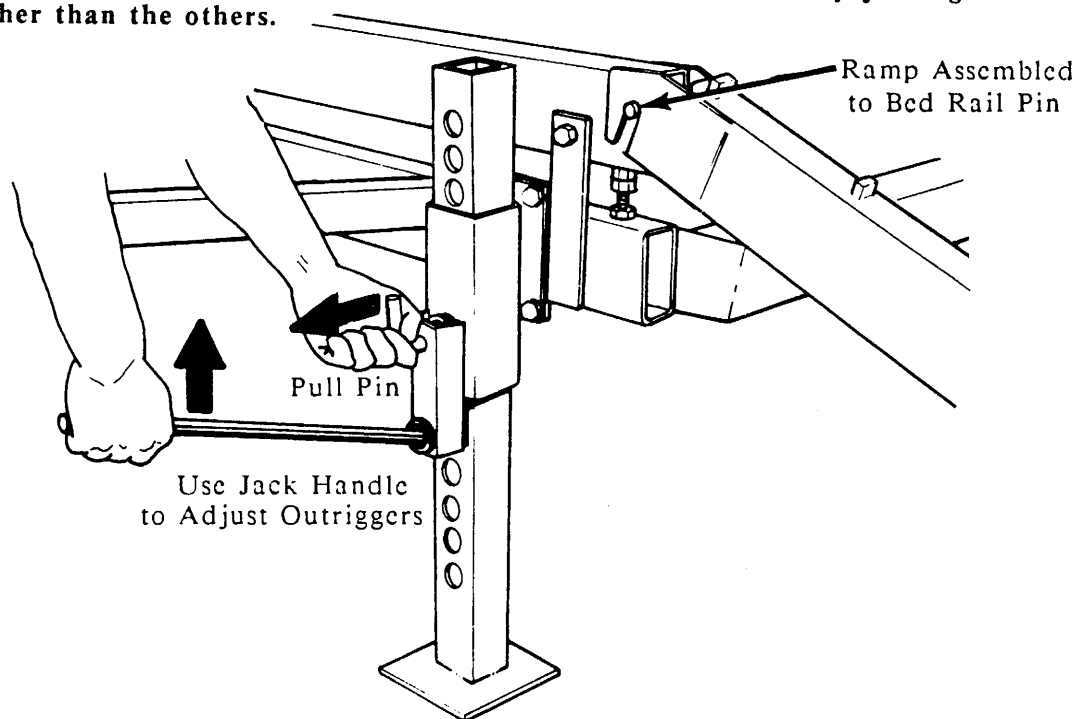

FIGURE 2
1. Always unhitch mill from vehicle before operating. Pull locking pins to drop all four outriggers. Using the jack handle, jack down each outrigger by lifting weight off locking pin with hack handle, pull out pin, and pull up on handle to lower the outrigger so the locking pin can drop in the next locking hole (See Figure 2).